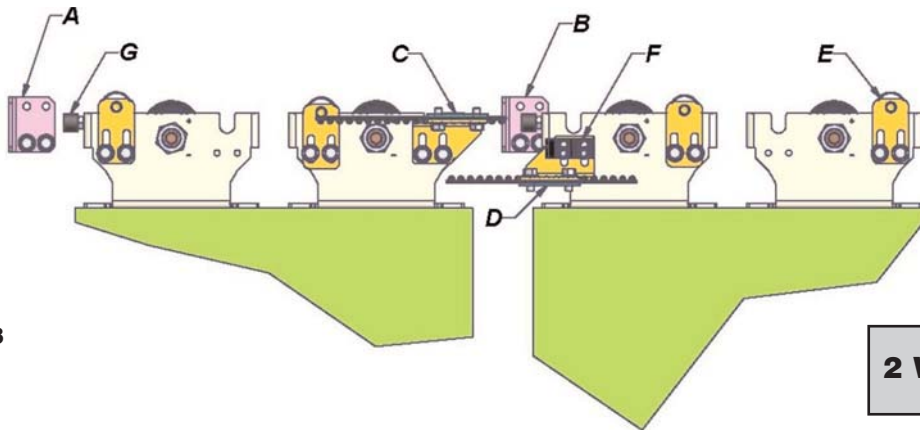

Fig. 23
Verify the correct disposition of the belt fasteners on the carriages in touch with the automatism as indicated in **Fig. 23, 24 and 25**.
- **Fig. 23** part **C, D** for two wings automatism
2 wing Automatism: on of the two limits is found on the left end of the girder (Fig. 23 part. A) and the other near the centre of the right wing (Fig. 23 part.B).
1 wing Automatism: the two limits are found on the ends of the left (Fig. 23, 24 part. A) and right (Fig. 23,24 part. B) sliding area and near the girder heads.
- Make sure the limit block runner is evenly positioned on the carriage observing the automatism configuration (Fig.23, 24, 25 part. F).